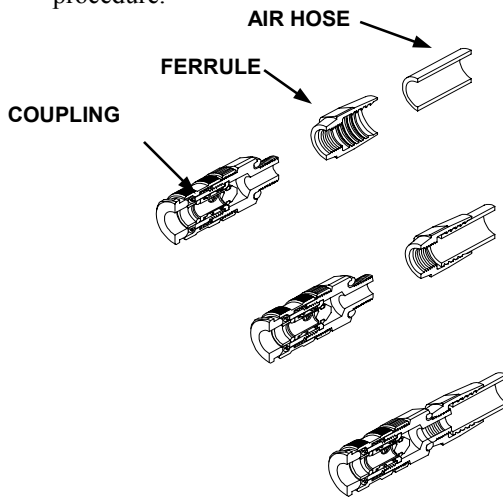

Figure 3-2. Air Hose Quick Connect Coupling Replacement
- b. **AIR HOSE QUICK CONNECT COUPLING REPLACEMENT.** Refer to figure 3-2 and replace a worn or otherwise damaged air hose quick connect coupling in accordance with the following procedure.